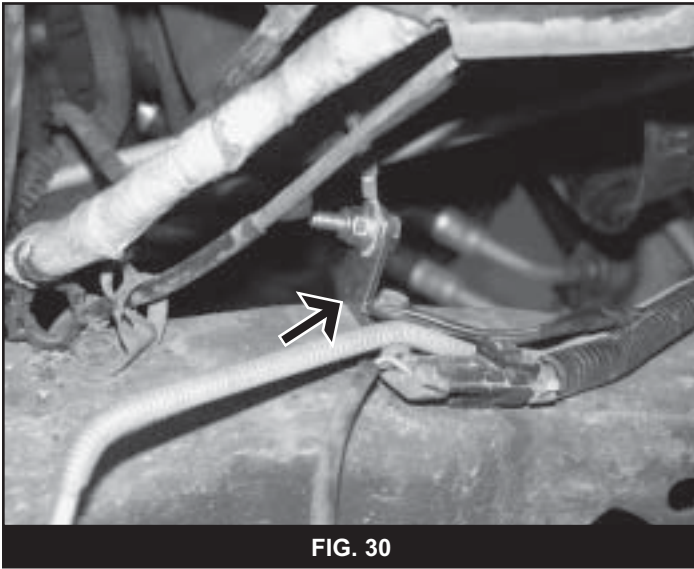

FIG. 30
60. Install the short end of the provided L-shaped ground strap relocation to the passenger's side frame rail with the OE bolt (Fig 30). Attach the ground strap(s) to the bracket with a 1/4" x 3/4" bolt, nut and two 1/4" USS washers.